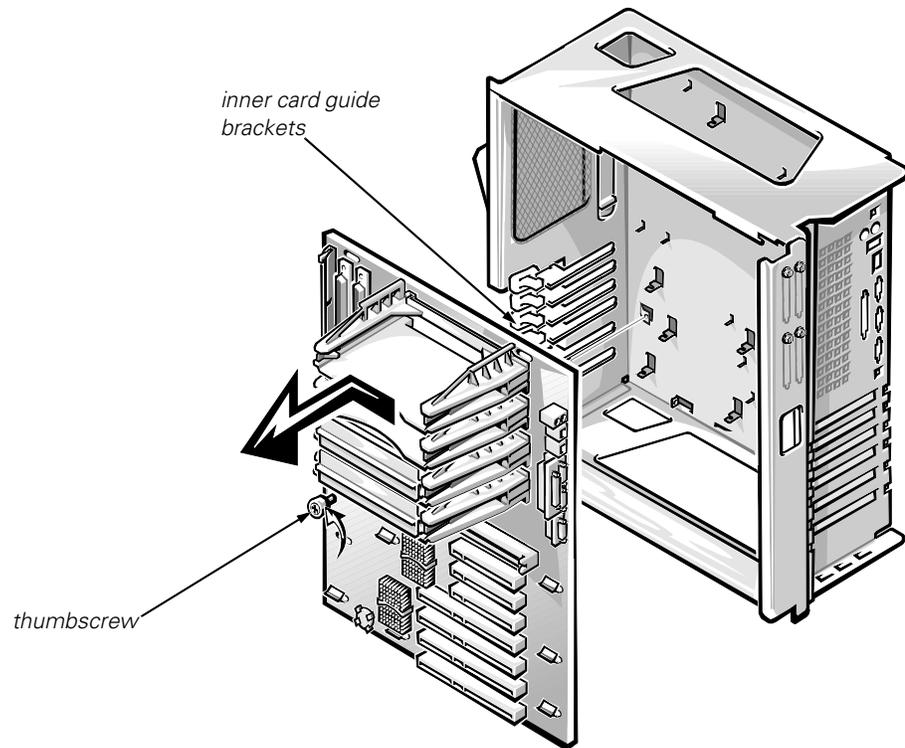

Figure 4-27. System Board Removal
- 4. Loosen the thumbscrew securing the system board to the tray (see Figure 4-27).**
- 5. Slide the system board to the left as shown in Figure 4-27 (toward the *inner expansion-card guide brackets*) about a half inch to clear the chassis hooks, and remove the board.**